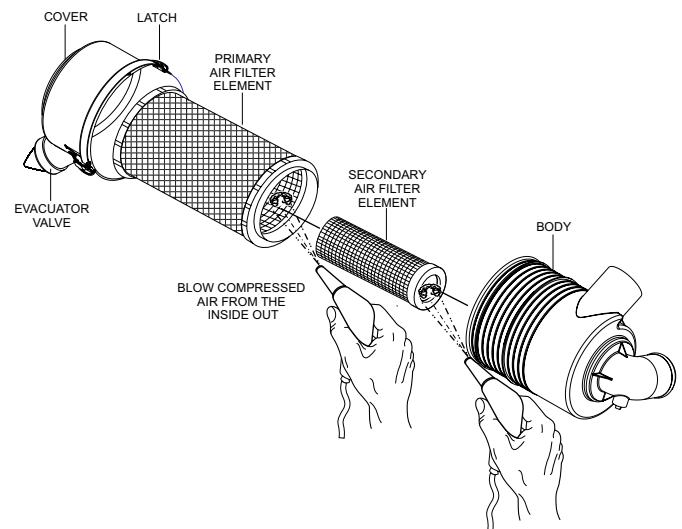

Figure 55. Air Cleaner
Every 250 hours: Remove air cleaner element (Figure 55) and clean the heavy duty paper element with light spray of compressed air. Replace the air cleaner as needed.
1. Release the latches (Figure 55) that secures the cover to the air cleaner body.
6. To clean the primary element (paper air filter) as referenced in (Figure 55), tap the filter element several times on a hard surface to remove dirt, or blow compressed air (not to exceed 30 psi (207 kPa, 2.1 kgf/cm²) through the filter element from the inside out.